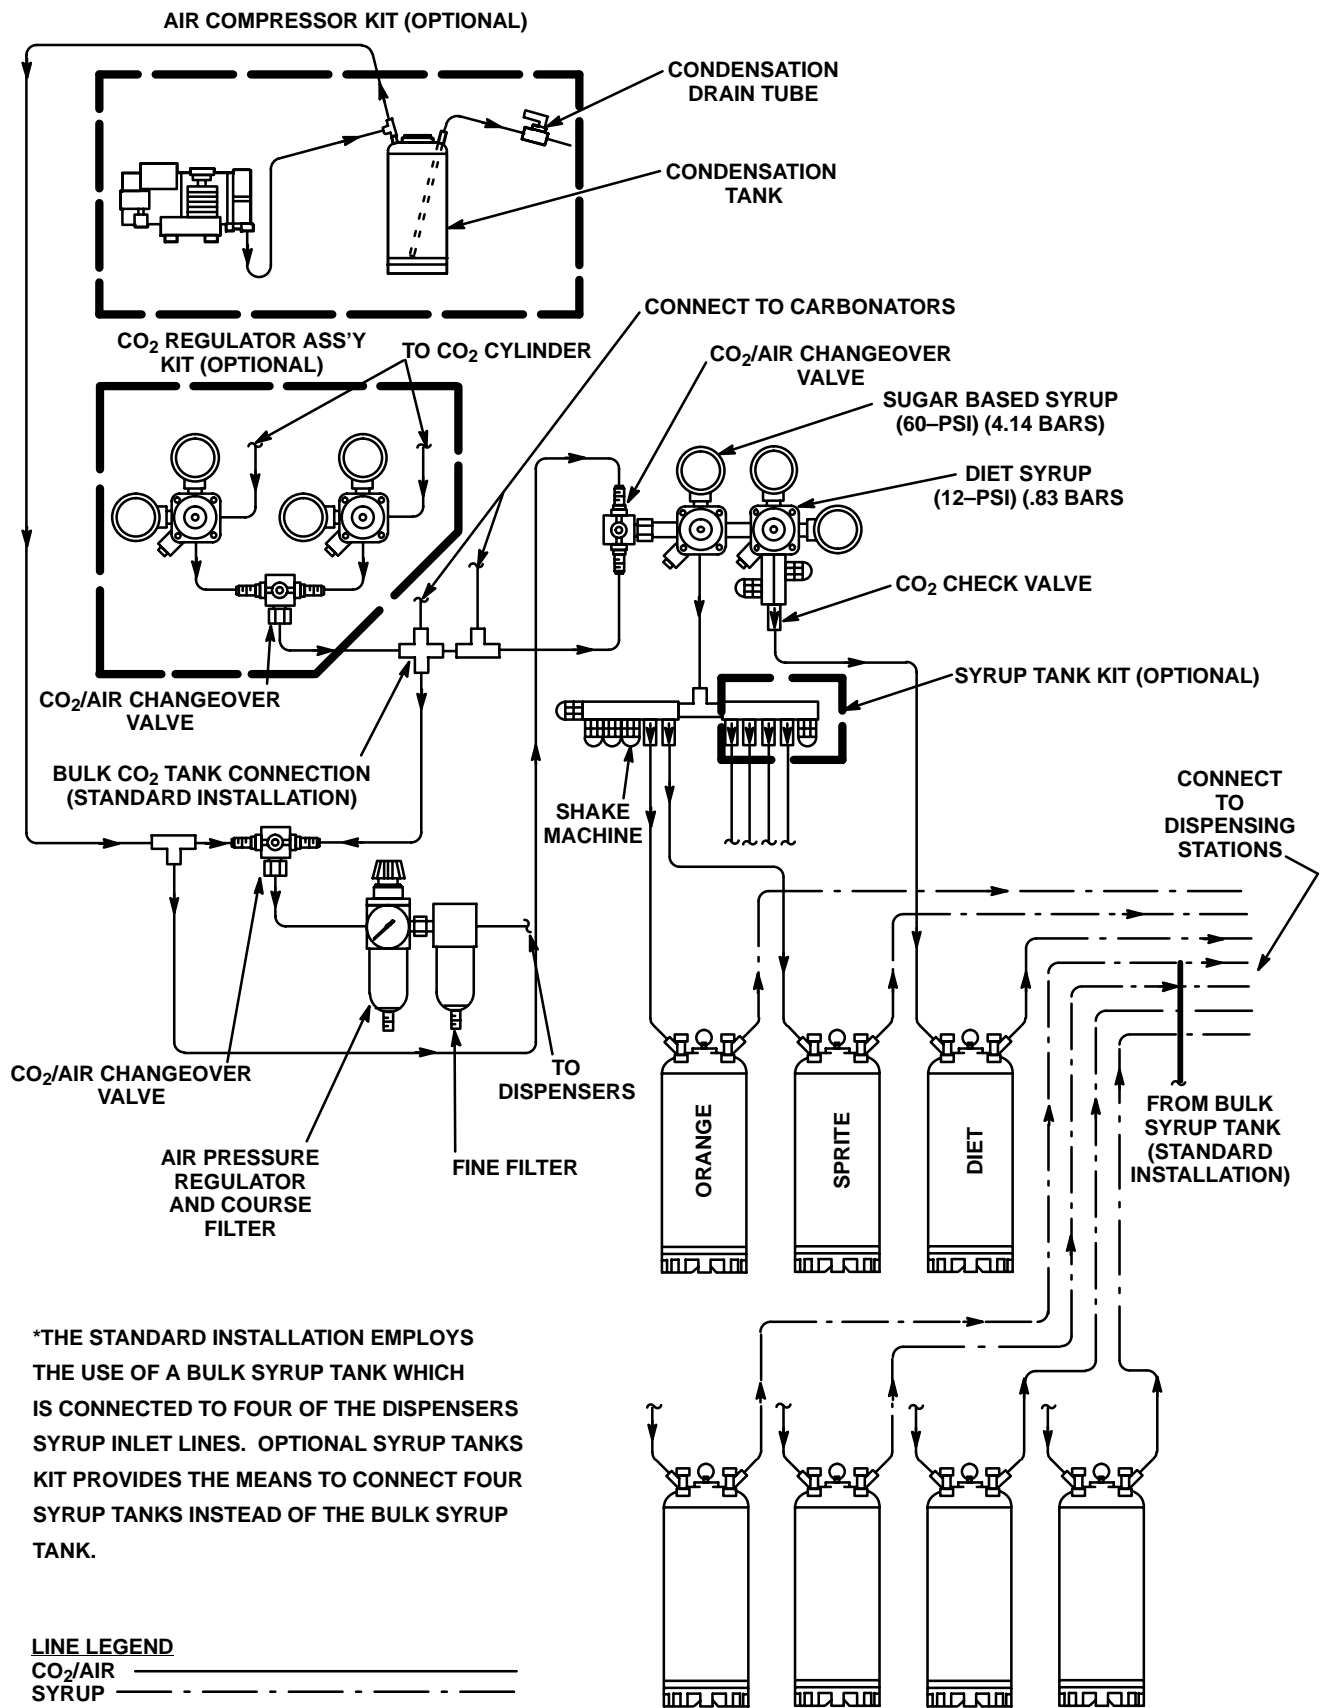

FIGURE 7. CO₂/AIR AND SYRUP SYSTEMS FLOW DIAGRAM
(see Figure 7)
6. Standard Installation (see Figure 7).
Installation with the optional high-pressure CO₂ Regulator Assembly Kit (P/N 0708) (see Figure 7)
9. System Connected to Bulk CO₂ Supply (see Figure 7)
10. System connected to two fifty pound CO₂ cylinders (see Figure 7).
- B. Place CO₂/air switchover valve (see Figure 7) in air position.
15. Installation Using Optional Syrup Tank Kit (P/N 0673) (see Figure 7.)